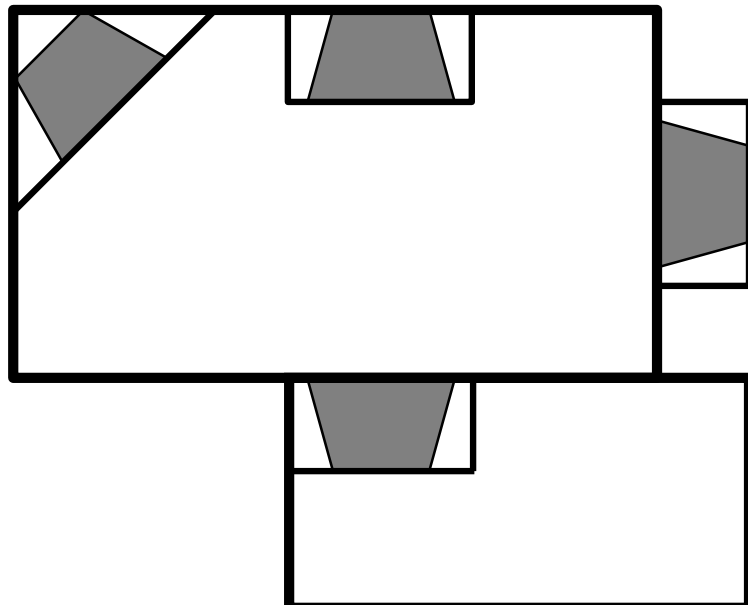

Figure 3 - Location of Firebox
- Minimize modifications to existing construction. Refer to Figure 3 below for location suggestions.